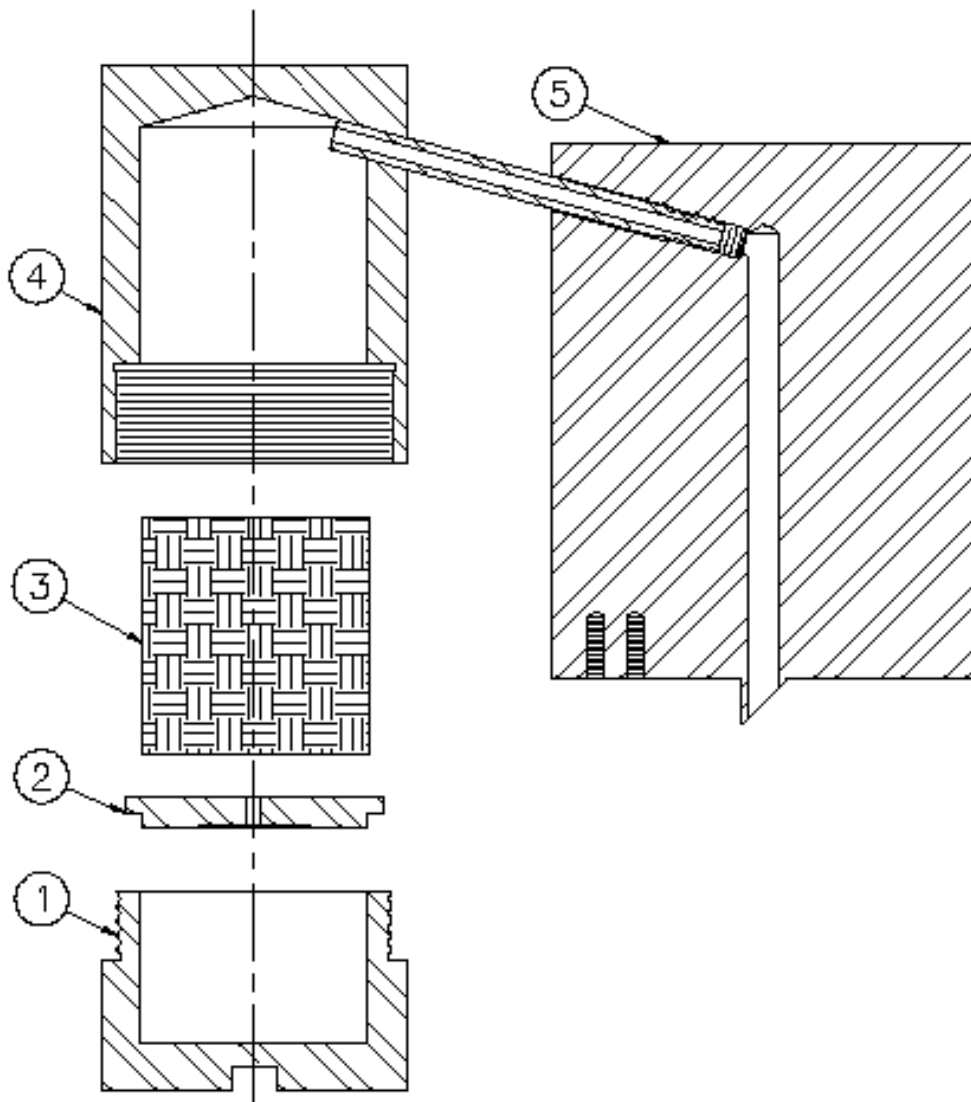
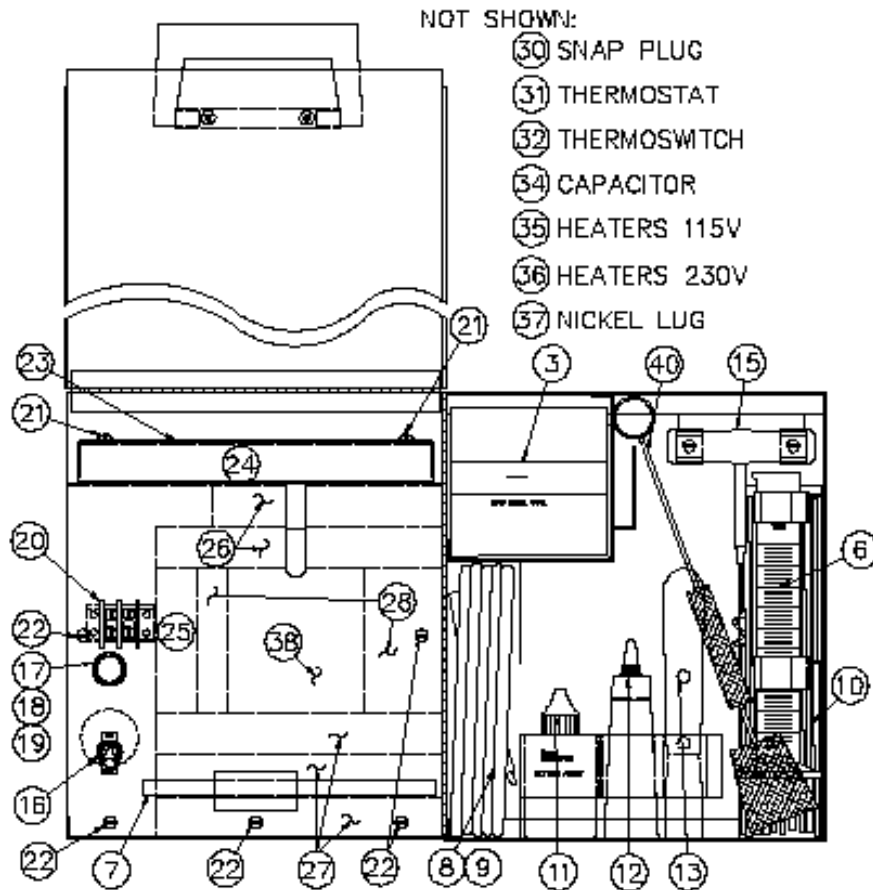
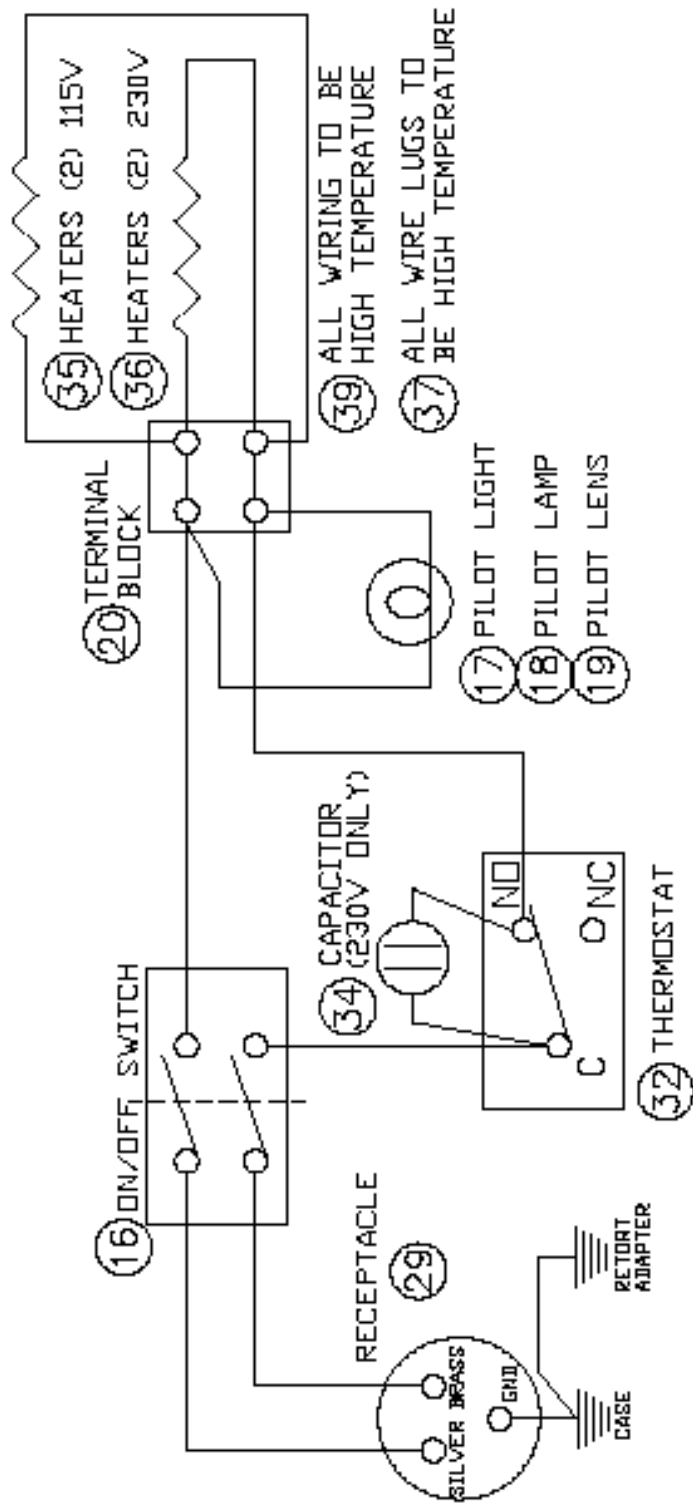

Fig. 1 – RETORT ASSEMBLY
Fig. 2 RETORT KIT ASSEMBLY
Fig. 3 – RETORT WIRING, 115 VOLTS AND 230 VOLTS
The retort shown in Fig. 1 is composed of a 50 cm^3 sample chamber (1), measuring lid (2) upper boiling chamber and distillation tube (4) containing steel wool (3), and condenser (5). Fig. 2 shows the heating well (38) which contains the cartridge heaters (35 or 36) and the thermostat (31). Water and oil distillate are collected in a standard 50 ml graduate (6).
- B. Lift retort assembly, (parts 1, 2, 4, 5), out of heating compartment. (Refer to Fig. 1.)
- C. Unscrew the sample chamber from the Upper Chamber using the square bar Retort Wrench (7).
- D. Pack the upper chamber (4) with steel wool (3). Refer to Fig. 1.
- E. Fill sample chamber (1) with sample and replace lid (2), allowing excess sample to escape. Wipe excess sample from outside of chamber and lid.
- F. Clean and lubricate retort threads with high temperature lubricant (12).
- G. Screw sample chamber (1) with lid (2) into upper chamber (4) and hand tighten using the square bar retort wrench (7).
- I. Add a drop of wetting agent (11) to the graduate (6), or the special receiver (41) and place either the graduate or receiver under the drain port of condenser (5).
- J. Turn heater on by connecting power cord (8) or (9) then moving the handle of the ON/OFF switch (16) upward to the **ON** position.
- K. Allow the retort to heat until the pilot lamp (18) goes out. Refer to Fig. 2. This will indicate that the retort has reached the temperature for distillation to be completed. The thermostat will automatically turn off the power to the retort heater at the correct temperature regardless of the voltage available.
- A. Use the spatula (13) and scrape the dried sample from the chamber (1) and lid (2) to assure correct sample measurement. Refer to Fig. 1.
- B. Remove steel wool (3) using the corkscrew (15), and clean chamber with spatula (13). Replace any steel wool caked with dried sample with new steel wool (3).
- C. Clean the retorts drain tube (4) and condenser (5) with a pipe cleaner (10).
- D. Clean and lubricate the retort threads with high temperature lubricant (12). This is extremely important to prevent seizing of the threads.
The replacement procedure for any of the above requires disassembly of the retort. Refer to Fig. 2 for mechanical disassembly and assembly and Fig. 3 for the electrical wiring. Replacement wire must have high temperature insulation such as Part No. 205772. This is an eighteen gauge American Wire Gauge appliance wire.
1. Disconnect Retort by unplugging the cable, Item (8) or (9) from the outlet.
3. Remove three 6-32 x 1-1/2 long screws (21) then remove the retort sheet metal cover (23) and the 1 inch thick insulator including the insulating strip at the back (24).
4. Remove five 6-32 x 1/4 long screws (22) from the front and bottom edge of the front/top panel, then lay the panel forward.
5. Disconnect the following wires. - Refer to Fig. 2 and 3.
- Two wires each terminal (one from each heater) from both top terminals of terminal strip (20).
- Two wires one terminal (pilot light and thermostat switch) and other terminal (pilot light and power switch) from the bottom two terminals of terminal strip (20).
- Ground wire at the mounting screw of the power receptacle (29) screw and nut terminal (230 volt model) or center screw terminal (115 Volt Model).
- Burned or bare wires. Replace with high temperature wire (39) and high temperature lugs (37). Crimp lug tightly onto the wire. Use lug crimping pliers. Do not attempt to use solder.
- Defective thermostat switch. Replace with switch (32), or replace thermostat (31).
- Replace all burned or damaged wiring. Wiring connections are shown in Fig. 3. Use only high temperature wire (39) and nickel lugs (37). Crimp lug tightly onto the wire. (Use lug crimping pliers) Do not attempt to use solder.
7. Make sure all wiring connections are tight and all crimp connections are properly made using recommended crimping pliers as follows: Refer to Fig. 3.
2. Remove wires and capacitor (34) (if used) from screw terminals of old switch (16) noting terminal location and switch position. Remove old switch from panel.
3. Mount new switch in panel, then replace wires and capacitor (if used) on terminals as noted above. Refer to Fig. 3.